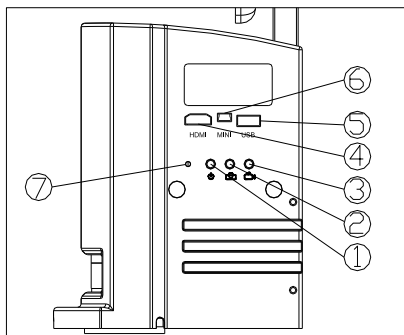

Fig. 11
- 1) Press down the on-off key① for 3-5 seconds, the indicator⑦ will turn from orange to green, which means the microscope is starting up. (See Fig. 11)